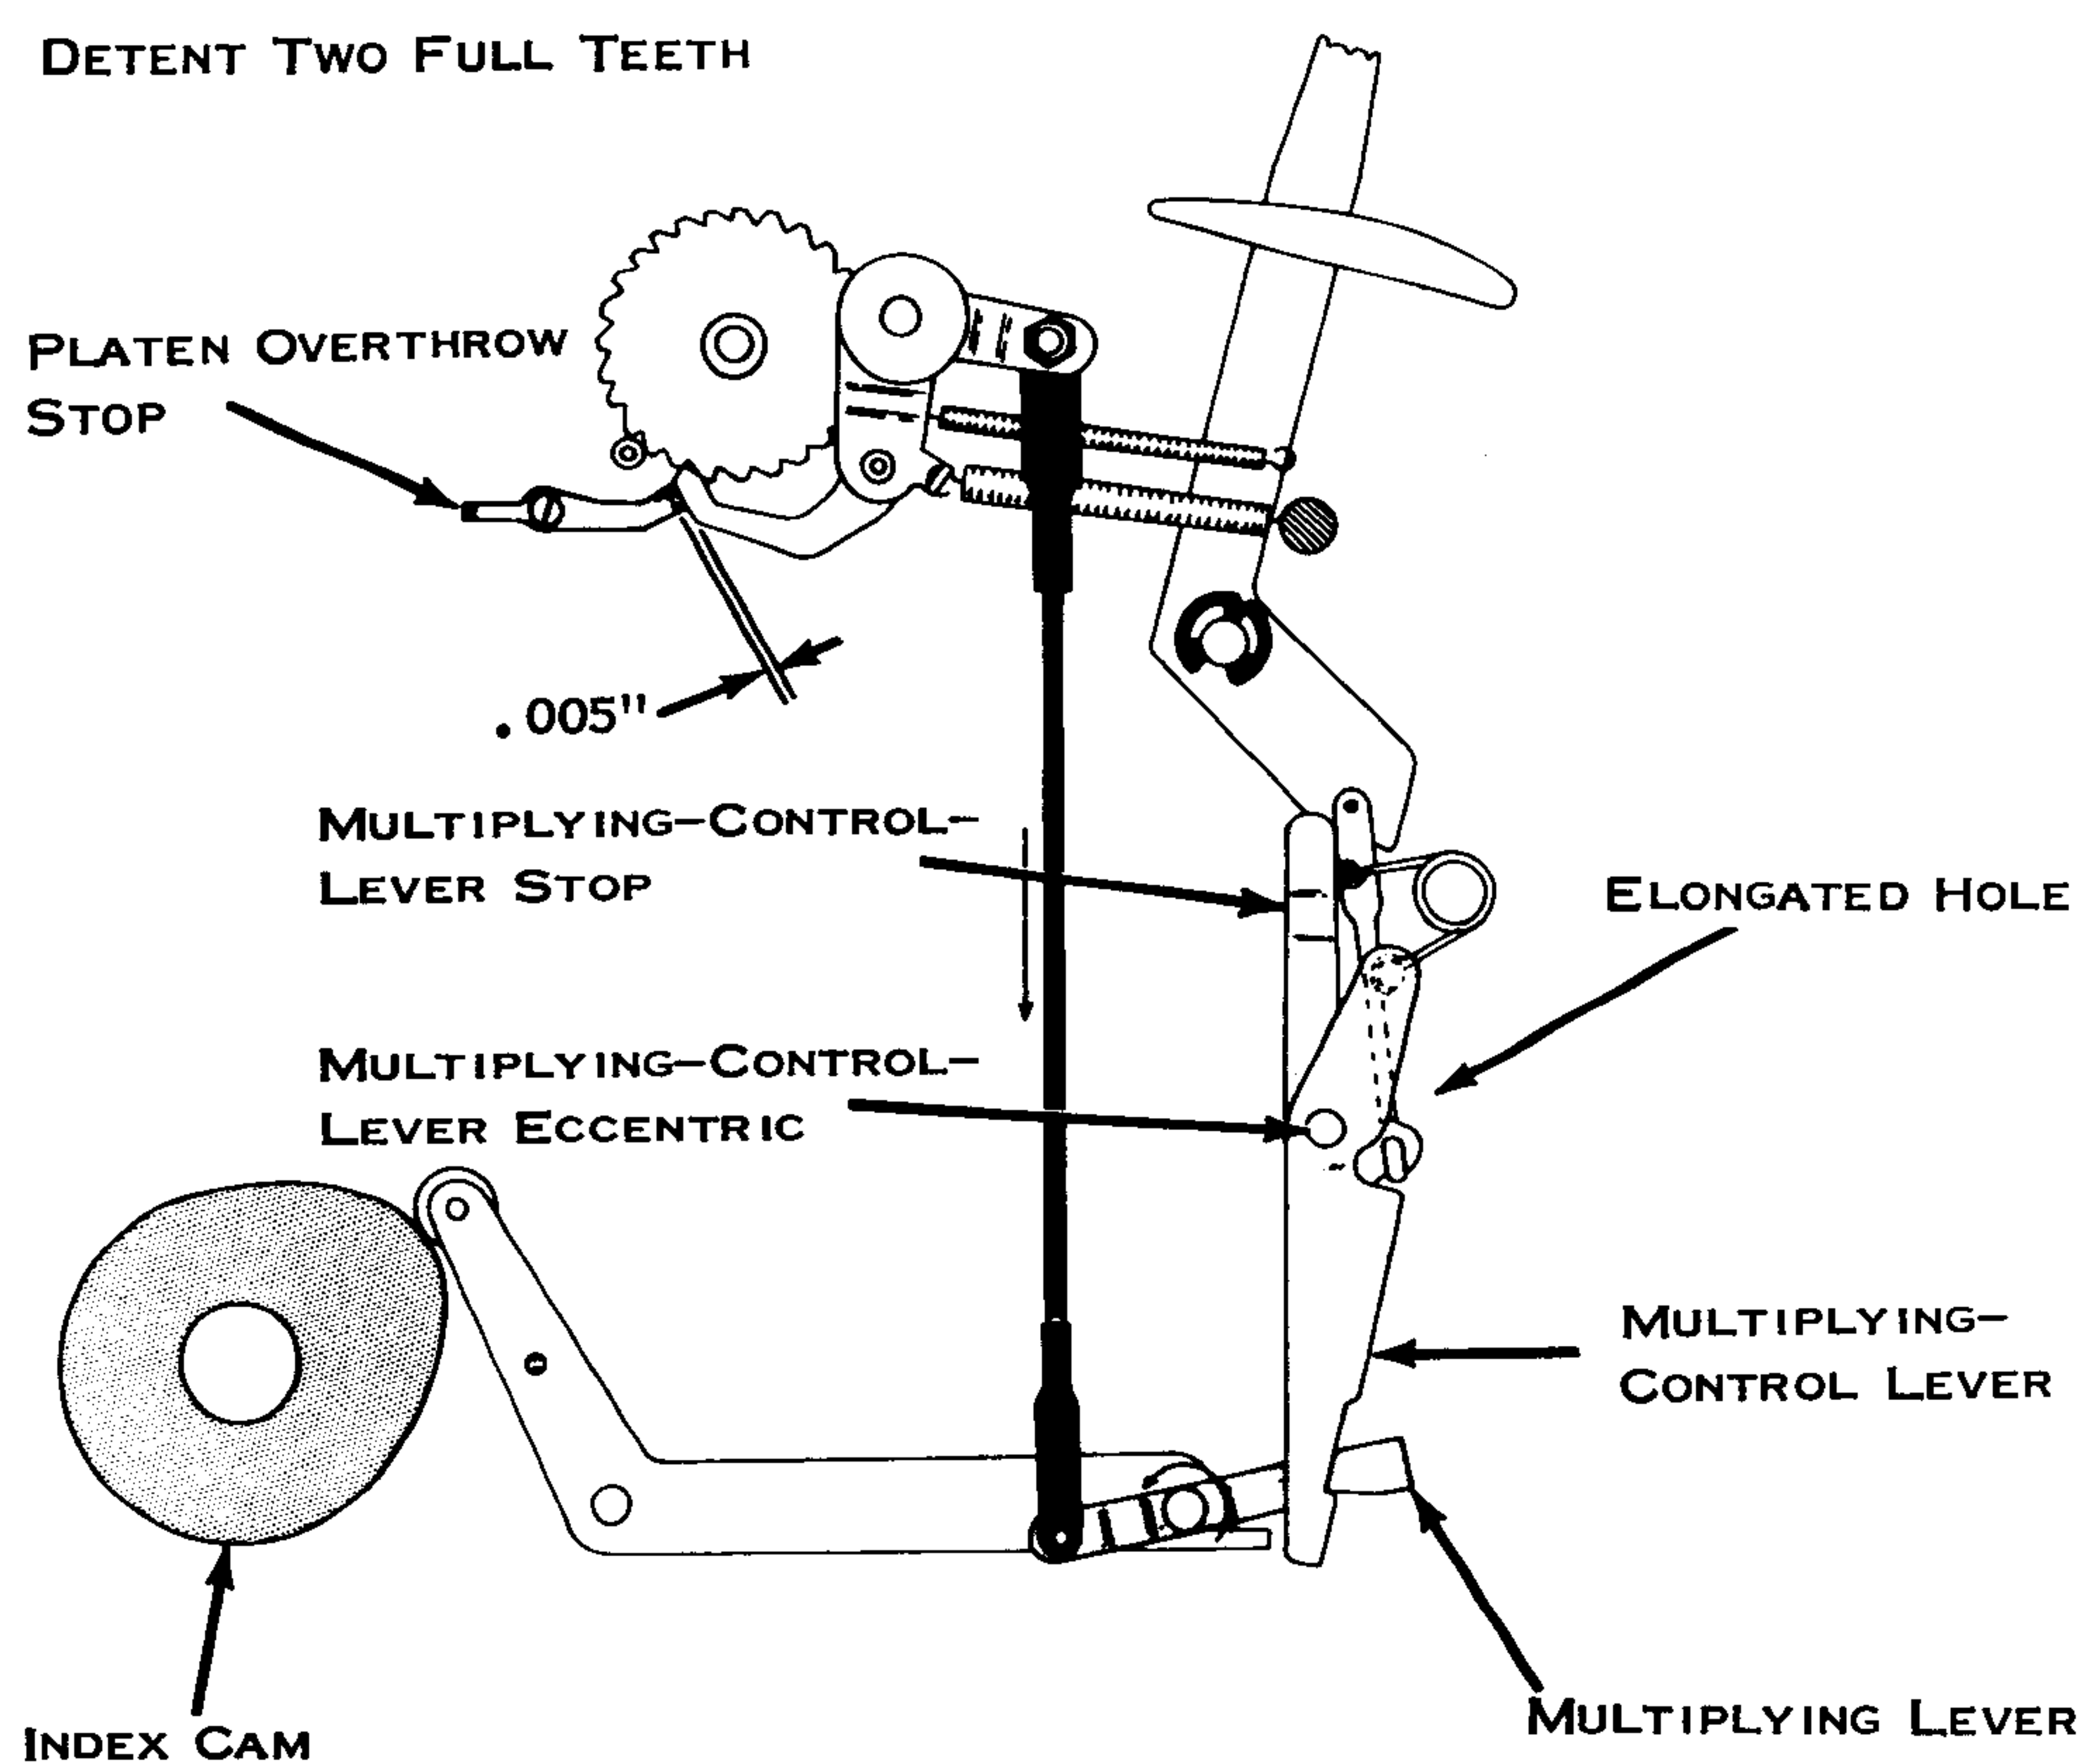

Figure 204. Index Travel Adjustment
b. Old Style (Fig. 204) -
- (1) Preliminary - Position the multiplying control lever stop (front to rear) so that its elongated hole is centered.
- (2) With the index selection lever in the double linespace position, adjust the multiplying control lever eccentrics (keeping the high point forward) so the multiplying control lever just clears the bottom edge of the multiplying lever.
- (3) Re-adjust the multiplying control lever stop (front to rear) until two full teeth of motion is given the pawl after it starts to drive the platen.